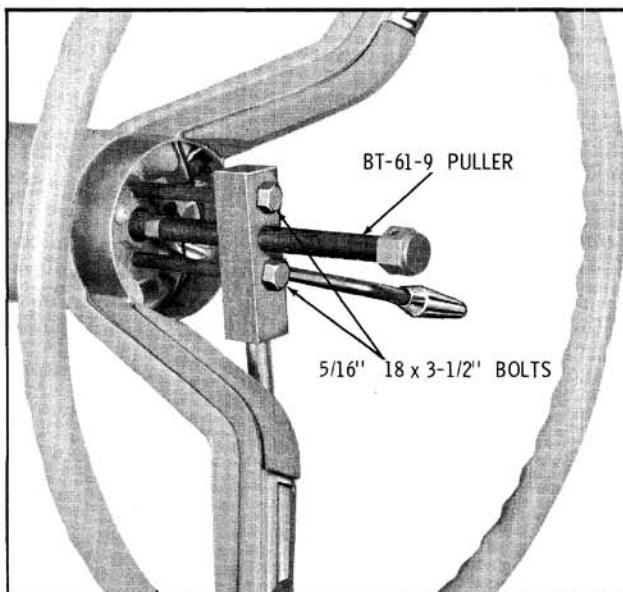

Fig. 8-75 Removing Steering Wheel
4. Remove the steering wheel attaching nut and washer, then using a puller such as BT-61-9, remove the steering wheel from the steering shaft. (Fig. 8-75) Remove puller from steering wheel.